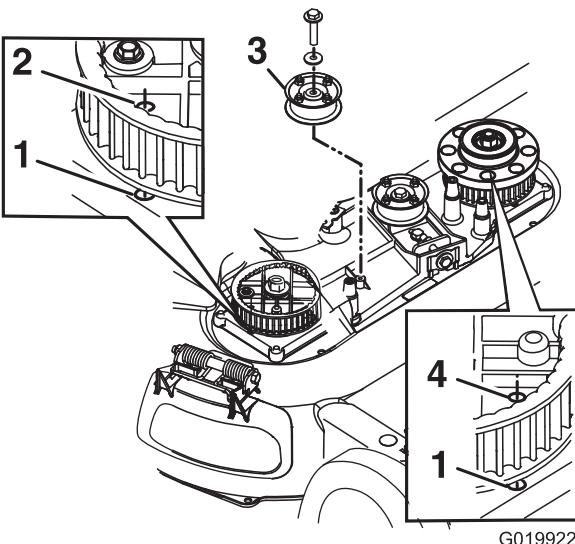

Figure 45
8. Remove the fixed idler pulley and the hardware (Figure 45).
10. Align the holes in the right-hand and left-hand sprockets with the holes in the housing as shown in Figure 45.